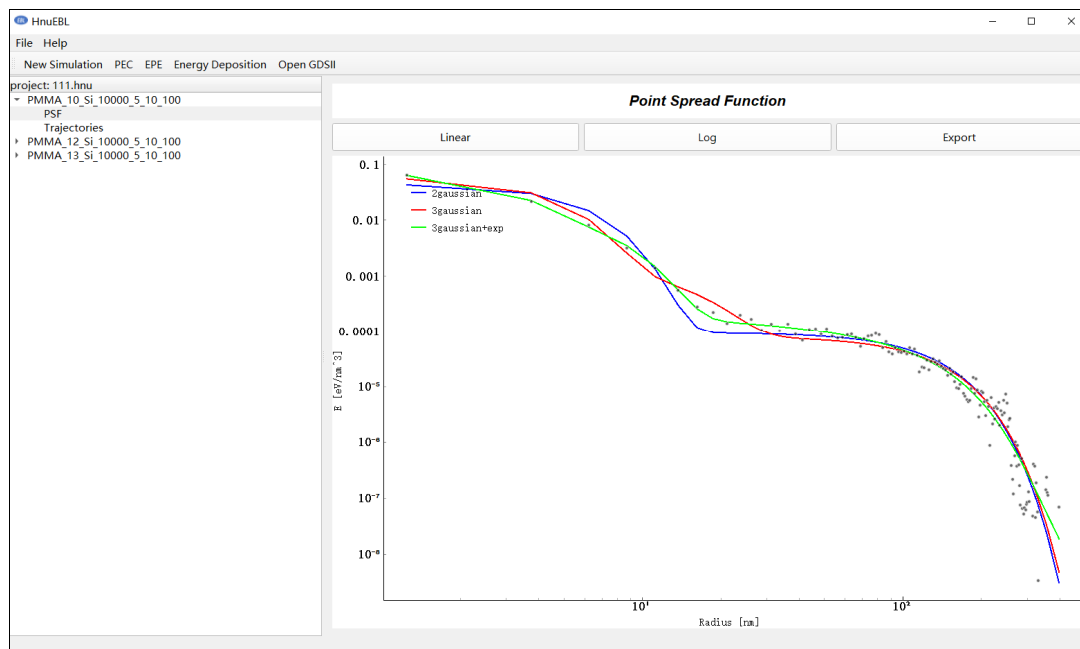

Figure 2.4.1 Fitting MC simulation
- 1) You can click the triangle symbol on the left of the corresponding MC simulation result to display the MC simulation result (Figure 2.4.1).
- 5) You can click "Numerical PSF" (Figure 2.4.1) to export the scatter point coordinate file.